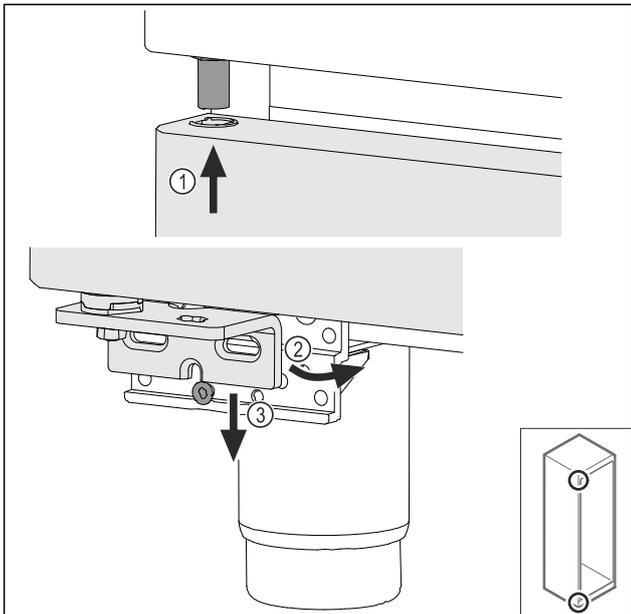

Fig. 66
- ▶ Insert the door slightly tilted at the top Fig. 66 (1), align the door straight Fig. 66 (2) and place it on the bottom of the swap bearing block screw Fig. 66 (3).